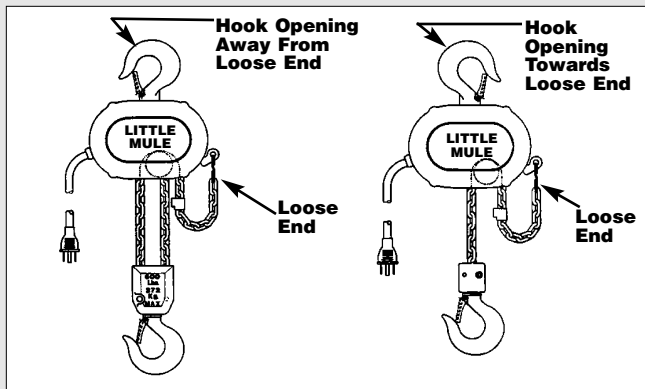

Figure 13A
11. Make sure the upper hook is properly installed as shown in Figure 13A.